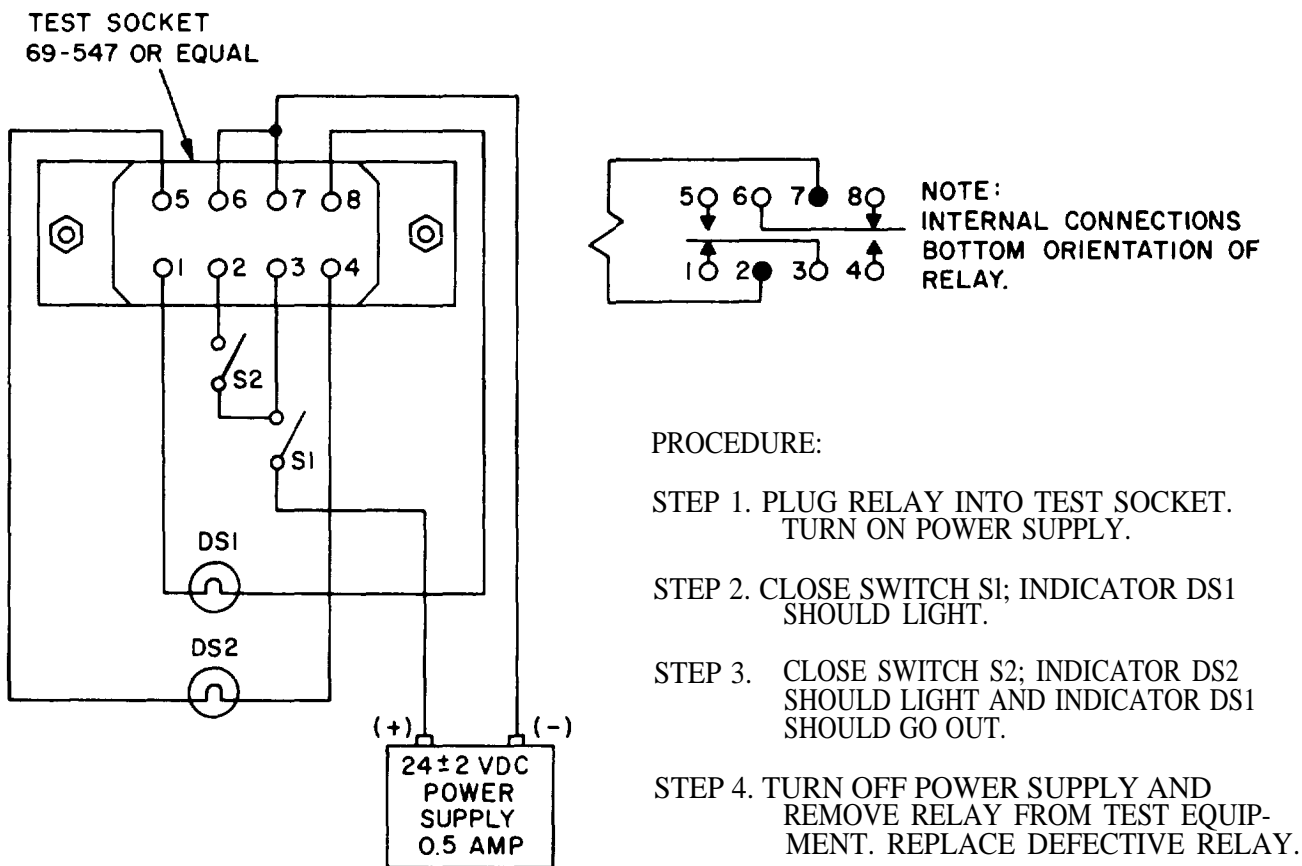

Figure 6-5. Plug in relay test setup
f. Test plug in relays for actuation as illustrated in figure 6-5.